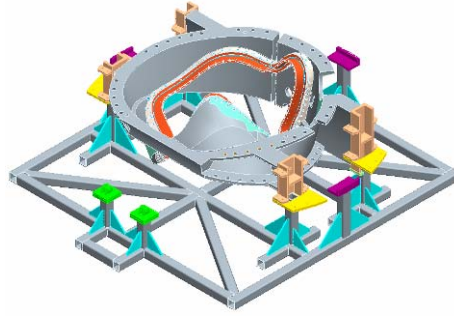

Figure 2-Position Casting in Assy. Fixture
- Transport the MCWF to station 1a using lift procedure **D-L-NCSX-983**. Position the MCWF with lower support brackets into the assembly fixture [station 1a]. (**Figure 2-Position Casting in Assy. Fixture**) [Note: the TRC will not be assembled in the assembly fixture]